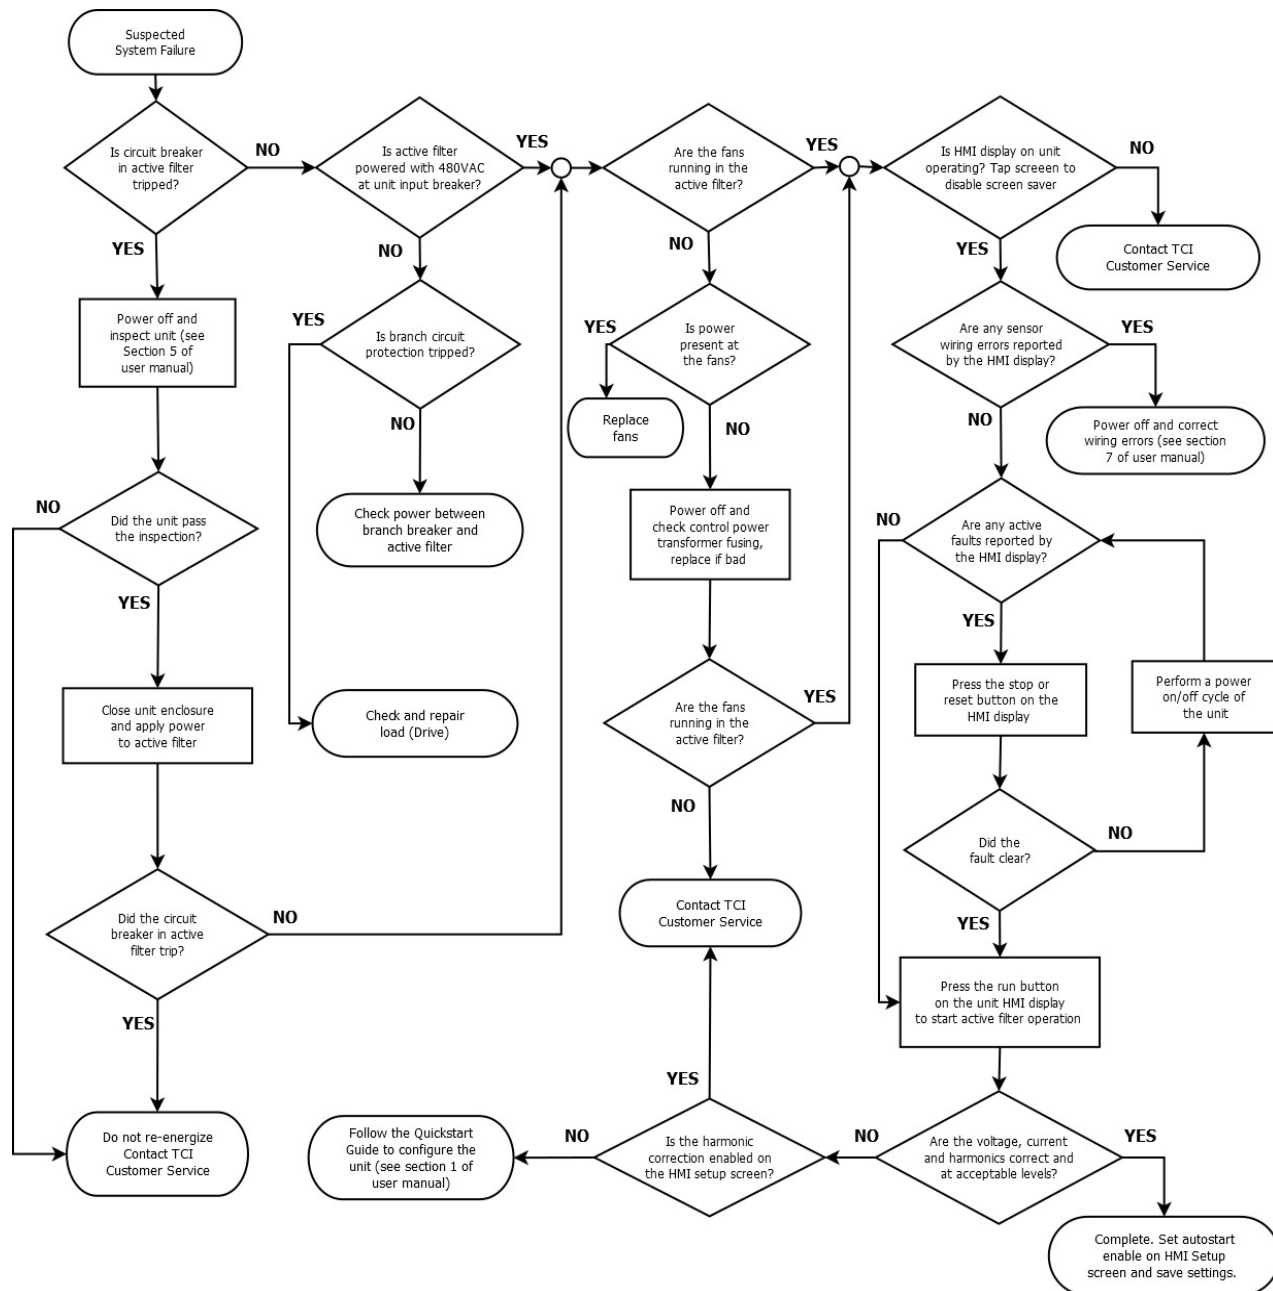

Figure 24: HGA System Troubleshooting Flowchart
- Measure resistance of power semiconductors using a multi-meter set on the diode check setting, see Figure 24: (600 V) 39, 78 Amp & (480 V) 45, 90, 100 Amp Power Component Layout. Look for opens, ∞ , or dead short readings. With the red lead of your meter connected to the far-right negative terminal of the capacitor bank, measure with the black lead of the meter to each of the three output terminals (bus bars), the reading should be approximately 0.35Ω . Reverse the meter leads and repeat measuring to each terminal. This time a low reading will be present, which will continue to increase; this is an indication of a capacitor charging. Next, connect the black meter lead to the "positive capacitor terminal" and again measure to each of the output terminals with the other lead; the reading should be approximately 0.35Ω . Reverse the meter leads and repeat measuring to each terminal. Again, it will be a low reading, which will continue to increase. If the readings are as described, likely the power semiconductors are good. If any readings are opens or dead shorts, it will be an indication that something is bad in the power section. Do not reapply power if you are not sure the IGBTs are good.